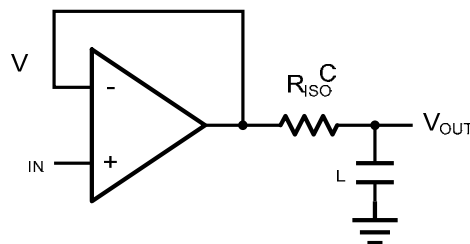
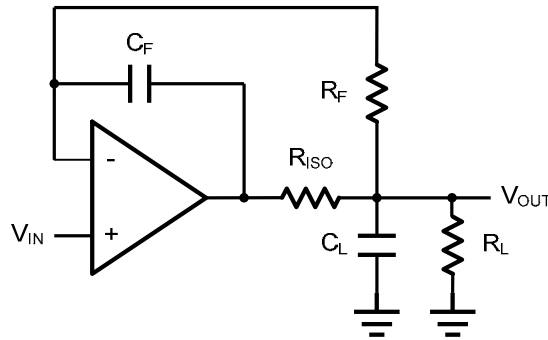

Figure 2 Indirectly Driving a Capacitive Load Using Isolation Resistor
Figure 3. Indirectly Driving a Capacitive Load with DC Accuracy
The MCP600X family is optimized for bandwidth and speed, not for driving capacitive loads. Output capacitance will create a pole in the amplifier's feedback path, leading to excessive peaking and potential oscillation. If dealing with load capacitance is a requirement of the application, the two strategies to consider are (1) using a small resistor in series with the amplifier's output and the load capacitance and (2) reducing the bandwidth of the amplifier's feedback loop by increasing the overall noise gain. Figure 2 shows a unity gain follower using the series resistor strategy. The resistor isolates the output from the capacitance and, more importantly, creates a zero in the feedback path that compensates for the pole created by the output capacitance.
The circuit in Figure 3 is an improvement to the one in Figure 2. R_F provides the DC accuracy by feed-forward the V_{IN} to R_L . C_F and R_{ISO} serve to counteract the loss of phase margin by feeding the high frequency component of the output signal back to the amplifier's inverting input, thereby preserving the phase margin in the overall feedback loop. Capacitive drive can be increased by increasing the value of C_F . This in turn will slow down the pulse response.